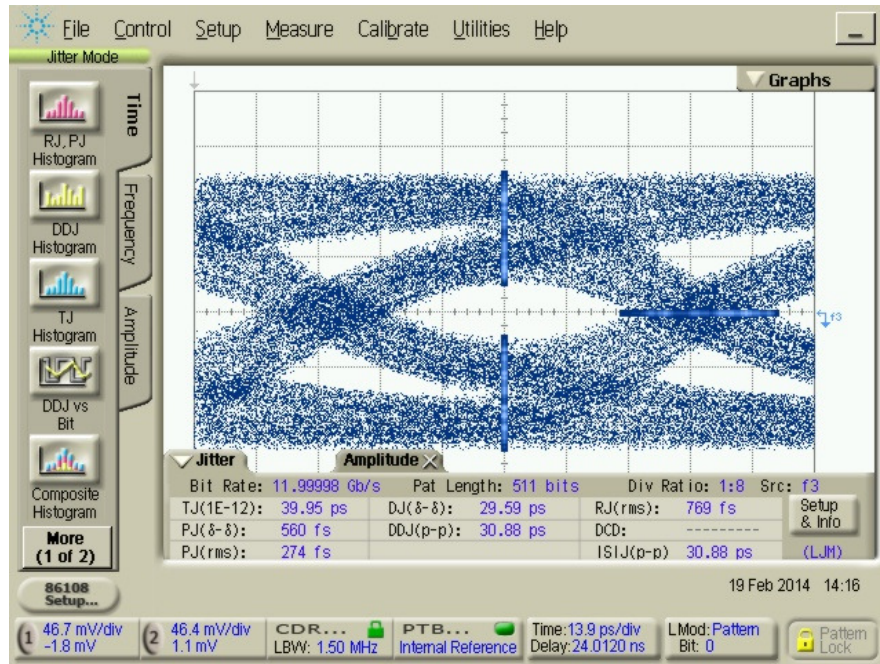
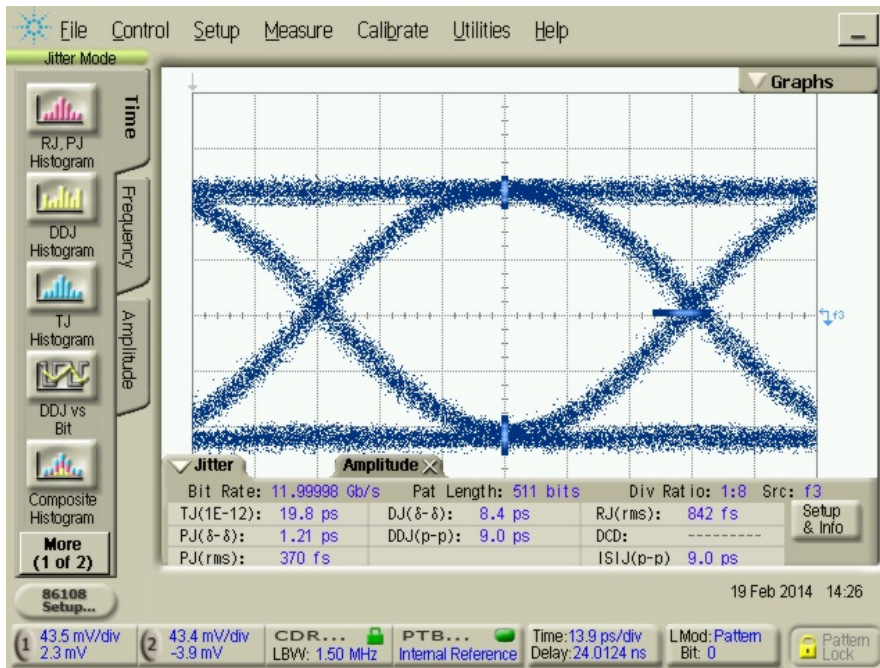
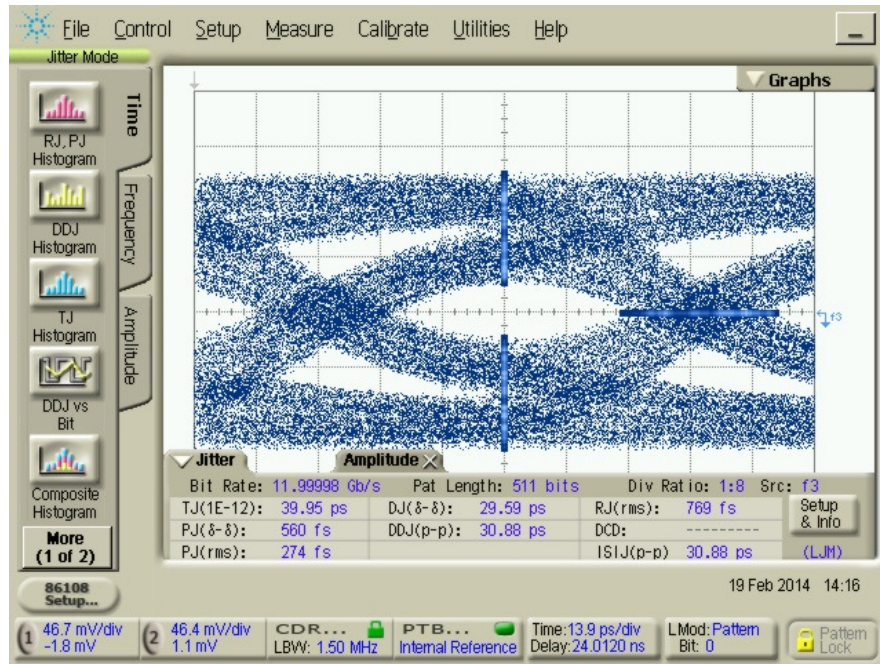

Figure 16. 12.0 Gb/s PRBS 2⁹-1. 10” Load Board Lossy Channel Only, as Indicated by Point 2 in Figure 15.
Figure 17. 12.0 Gb/s PRBS 2⁹-1. HMC7545ABLP47 EVB with 10” Load Board Lossy Channel at Input Using Equalization (EQ), as Indicated by Point 3 in Figure 15.
Figure 18. 12.0 Gb/s PRBS 2⁹-1. 10” Load Board Lossy Channel Only, as Indicated by Point 4, with Source at Point 3 in Figure 15.
Example EQ and DE results are shown in Figures 16 & 17 and Figures 18 & 19, below.
Figure 16 shows a 12.0 Gb/s signal through a 10" load board (lossy channel emulator) only. Figure 17 shows the output after Equalization (EQ) for a 12.0 Gb/s input signal routed through the EVB with a 10" load board lossy channel at the input.
Figure 18 shows a 12.0 Gb/s input signal through a 10" load board (lossy channel emulator) only. Figure 19 shows the HMC7545AxLP47 output after De-Emphasis (DE) for a 12.0 Gb/s input signal routed through the with a 10" load board lossy channel at the output.